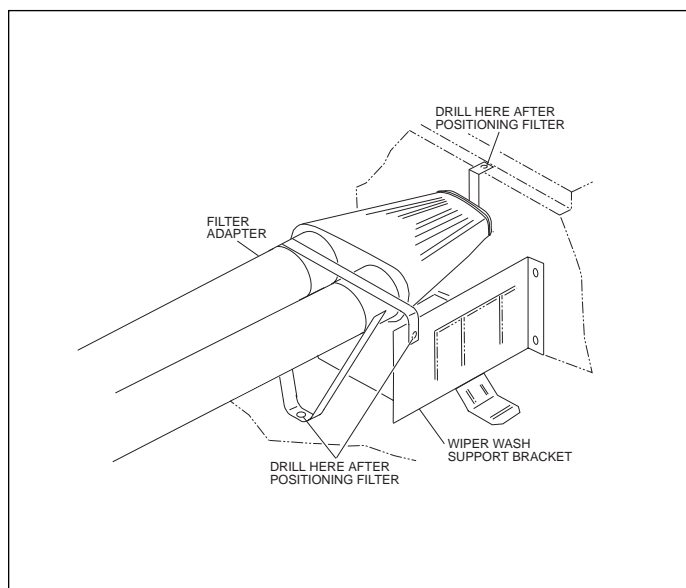

Fig. 2
NOTE: See fig. 2 and illustration on back page for finished kit location.
- 6) Before you mark and drill any holes, attach the intake hoses to the filter adapter and position the complete assembly (shown in fig. 2). Drill three 5/16" holes and secure with provided hardware (Make sure you have clearance for the hood hang). Cut and secure vent hose to valve cover fitting.